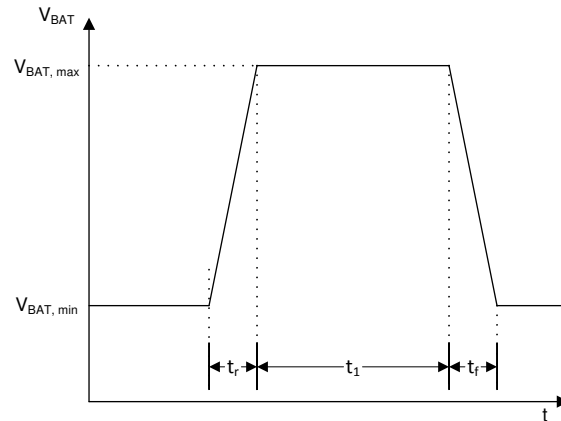

图 10-4. Voltage Profile to Test a Jump Start Event
- To emulate a jump start event, voltage profile described in 图 10-4 is used.